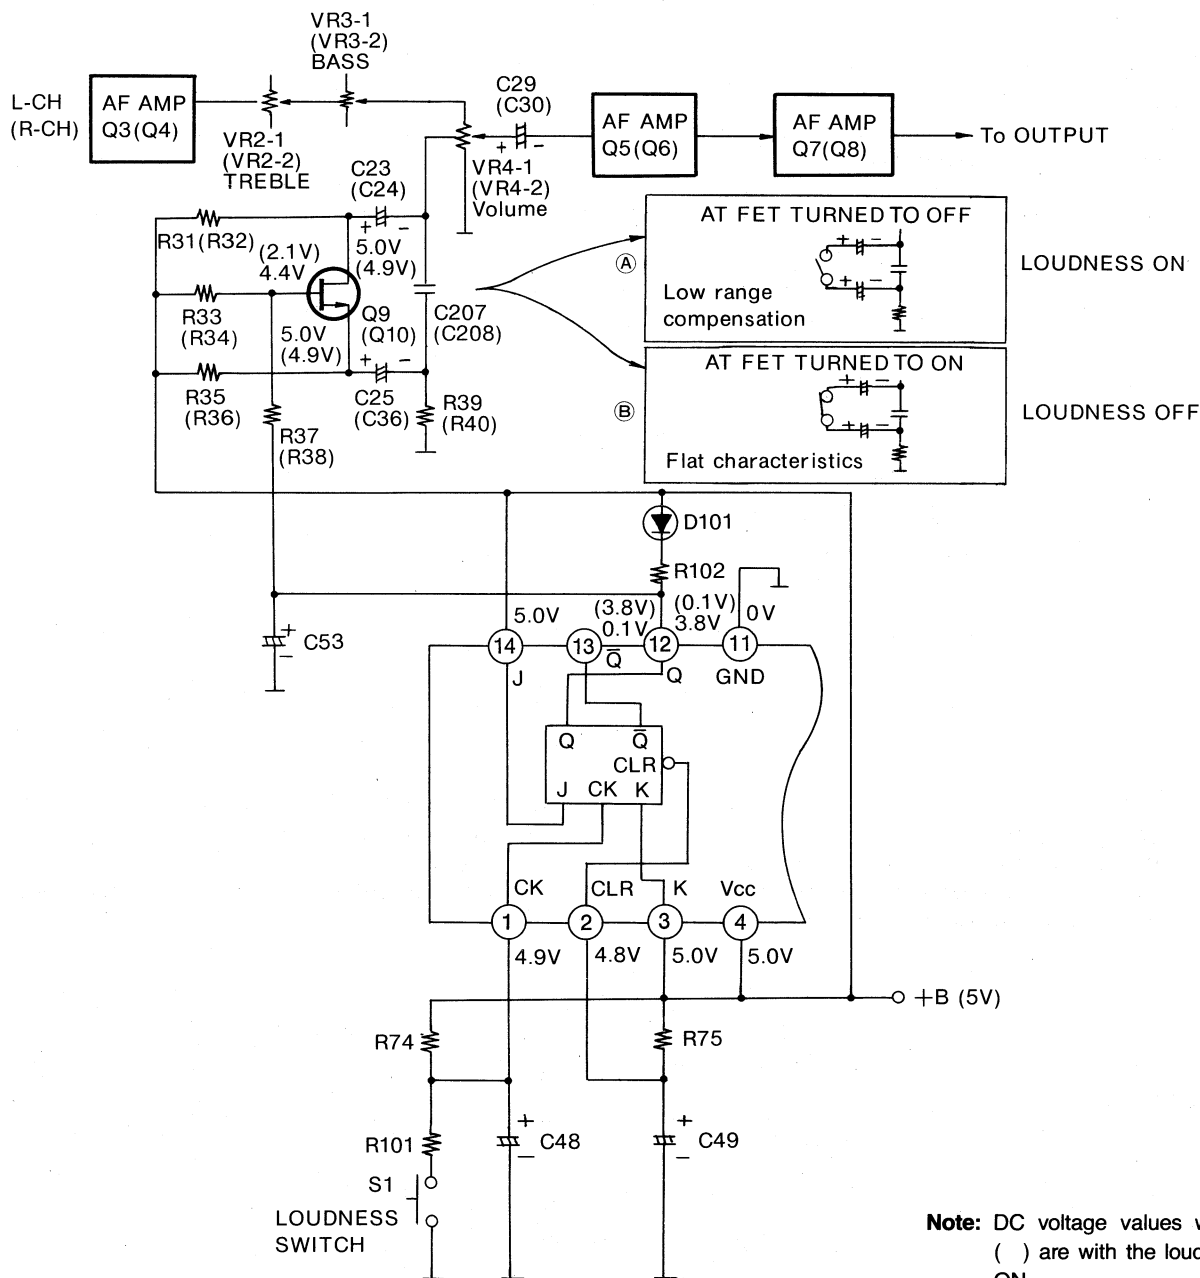

Fig. 34 Loudness-control circuitry-Preamp
1. In the circuit shown in figure 34, when the power source is turned on, the output "Q" of the J-K flip-flop becomes "L" therefore the gate voltage of the FET switch Q9 (Q10) becomes low level, and Q9 (Q10) is off at this time.
2. When Q9 (Q10) is off, the source-drain interval of Q9 (Q10) is opened, so it can be expressed by equivalent circuitry such as shown in Fig. 34 (A).
3. As can be seen in the circuit shown in Fig. 34 (A), the mid- and high range is decreased by C207 (C208) to the level set by R39 (R40), and, as a result, the low range becomes the increased frequency response.
7. In the circuit shown in Fig. 34 (B), the electrostatic capacity of the electrolytic capacitor is set very big compared to C207 (C208), and, for that reason, the AF signal frequency response becomes flat to the level determined by R39 (R40).